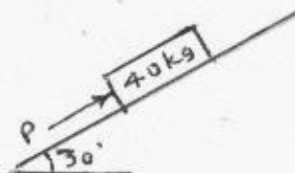

fig. 6 Q. 3(b) 2nd Alt.
- (b) A 40kg mass is placed on the inclined plane, making 30° with horizontal, as shown in **fig. 6**. A push P is applied parallel to the plane. If co-efficient of static friction between the plane and the mass is 0.25, find the maximum and the minimum values of P between which the mass will be in the equilibrium. 07